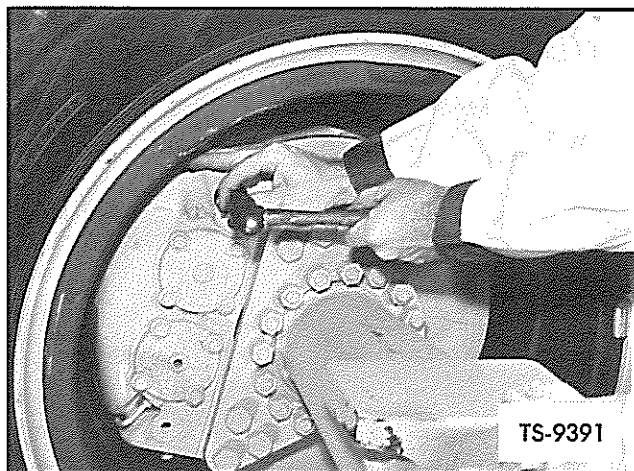

Fig. 7. Drive Second Unlocked Pin Back
5. Using a large punch and a hammer drive the second unlocked pin away from disc as shown in Figure 7. Access to second unlocked pin can best be gained by working through hole vacated by first unlocked pin guiding pin next to edge of disc.